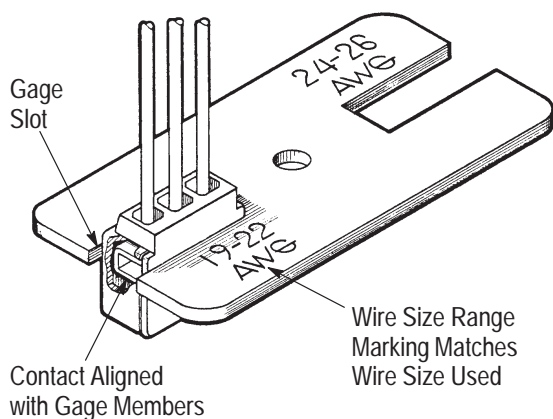

Figure 3
6. Refer to Figure 3 and using the gage, check the crimp height of the connector as follows: